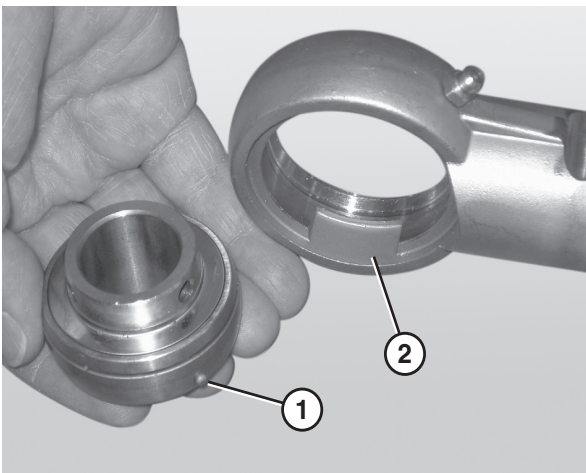

Figure 79
4. Remove the worn or damaged bearing (**Figure 79**).
| When inserting the new bearing, make sure the anti-rotation notch (Figure 79, item 1) on the bearing lines up with the groove inside the housing (Figure 79, item 2). |